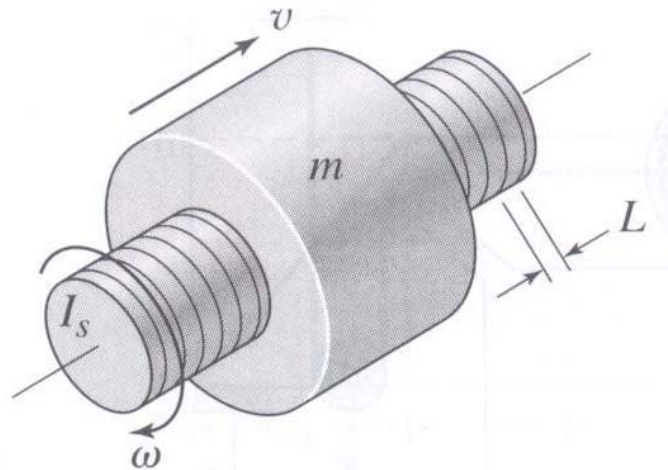

Figure 4
4. The *lead screw* (also called a *power screw* or a *jack screw*) is used to convert the rotation of a motor shaft into a translational motion of mass m (see Figure 4). For one revolution of the screw, the mass translates a distance L (called the *screw lead*). As felt on the motor shaft, the translating mass appears as an equivalent inertia. Use kinematic energy equivalence to derive an expression for the equivalent inertia. Let I_s be the inertia of the screw.